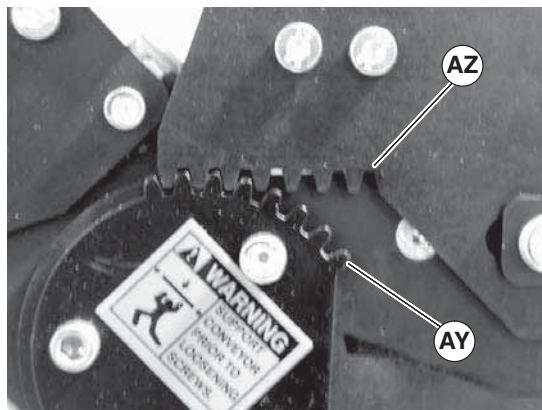
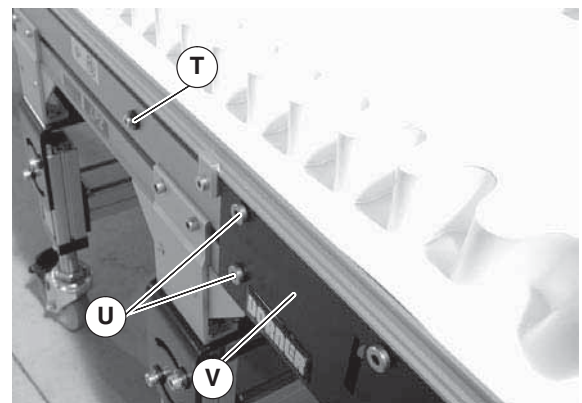

Figure 36
Figure 37
- On tension end of the conveyor, identified by the pinion locking screw (Figure 36, item T), loosen the two tail clamp bolts (U), on both sides of conveyor.
- With 5mm hex wrench, hold pinion torque screw (Figure 37, item W). Loosen the pinion locking screw (Figure 36, item T) and turn the pinion torque screw (W) to extend head plate assembly.
- After adjusting proper tensioning, tighten the pinion locking screw (Figure 36, item T) to 69 in-lbs (7.8 N-m), and tighten tail clamp bolts (Figure 36, item U) on both sides of conveyor to 146 in-lb (16.5 N-m).
1. Ensure tensioning racks are extended and touching the idler pulley headplates: loosen the pinion locking screw (Figure 36, item T) and rotate the pinion torque screw (Figure 37, item W) clockwise until contact with the head plate is made, then tighten the pinion locking screw (T) to 69 in-lbs (7.8 N-m)